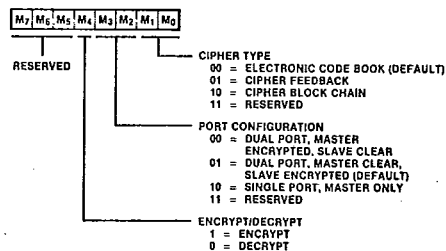

Figure 7. Mode Register Bit Assignments
**Mode Register.** Bit assignments in this 5-bit read/write register are shown in Figure 7. The cipher type bits ( $M_1$  and  $M_0$ ) indicate to the DCP which ciphering algorithm is to be used. On reset, the Cipher Type mode defaults to Electronic Code Book mode.